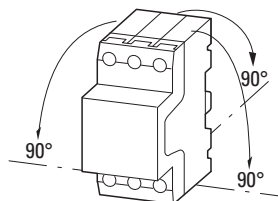

Figure 7: Permitted mounting position of the PKZM4-.../XTPR...DC1 motor-protective circuit-breaker
- Mount the motor protective circuit breaker only as shown in figure 7.